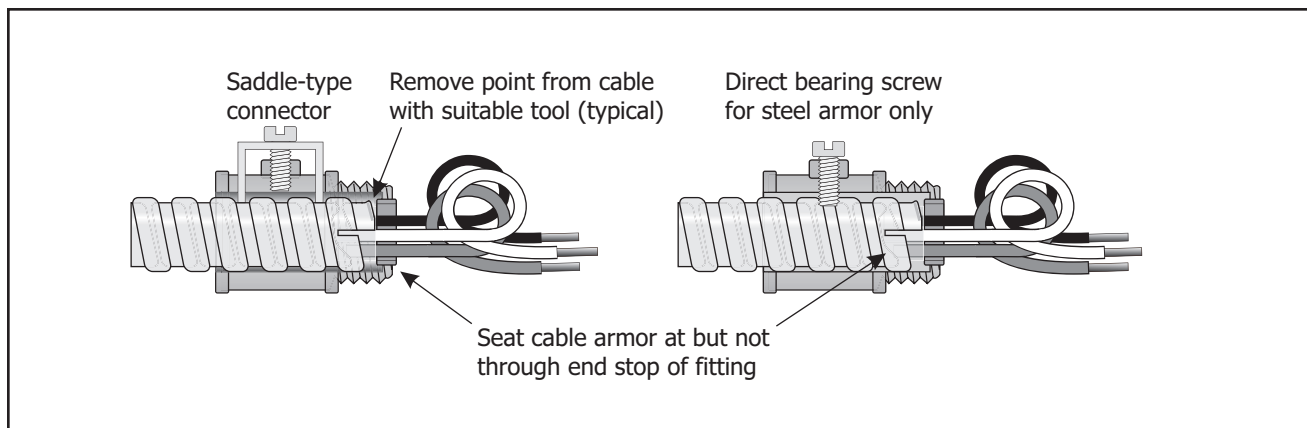

Figure 6.4—Position of cable in connector
To ensure adequate mechanical securement, the cable should be inserted into the connector until it is flush with but not extend through the connector’s end stop. Screws or direct-bearing tabs provided on some connectors or box clamps should be positioned to seat between convolutions of the armor sheath. Fittings with direct bearing screws are permitted only on cables with steel armor (Figure 6.4, next page).
b) *Connectors or fittings* used to connect AC cable to the box or fitting must protect the conductors from abrasion, unless the design of the outlet box or fitting provides the required protection. Listed fittings for Type AC cable provide the required protection. To ensure adequate mechanical securement, the cable should be inserted into the connector until it is flush with the connector's end stop. Screws or direct-bearing tabs provided on some connectors or box clamps should be positioned to seat between convolutions of the armor sheath. Fittings with direct bearing screws are permitted only on cables with steel armor. See Figure 6.4.
b) *Connectors or fittings* used to connect MC cable to the box or fitting must protect the conductors from abrasion, unless the design of the outlet box or fitting provides the required protection. Listed fittings for Type MC cable provide the required protection. To ensure adequate mechanical securement, the cable should be inserted into the connector until it is flush with the connector's end stop. Screws or direct-bearing tabs provided on some connectors or box clamps should be positioned to seat between convolutions of cables having interlocked metal sheath or corrugated metal sheath construction. Fittings with direct bearing set screws are permitted only on steel armored cables. See Figure 6.4.